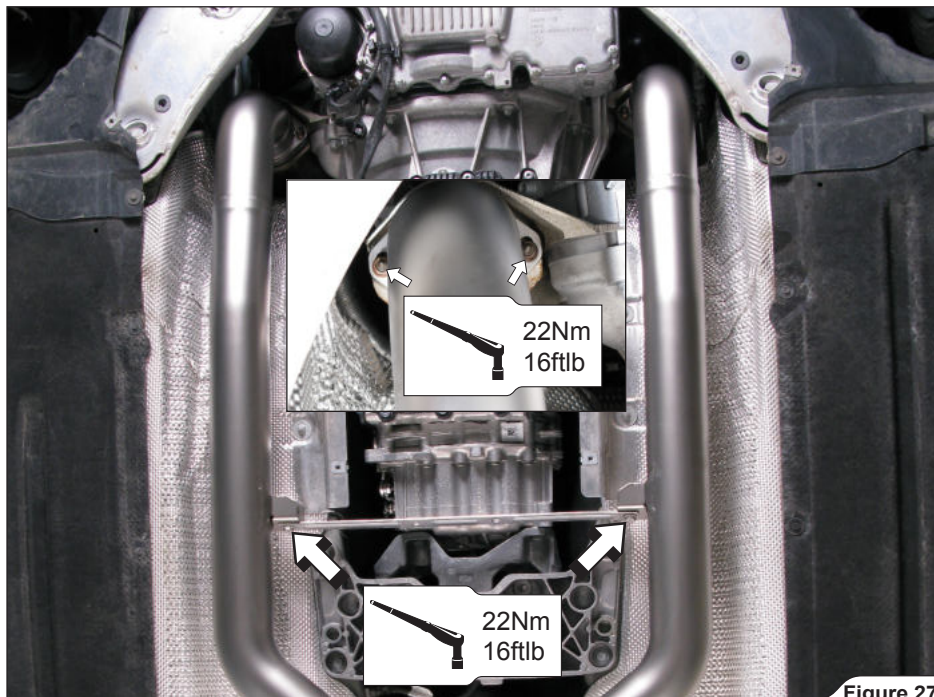

Figure 27
10. Tighten the flange nuts and link pipes linkage bolts to the specified torque (**Figure 27**).